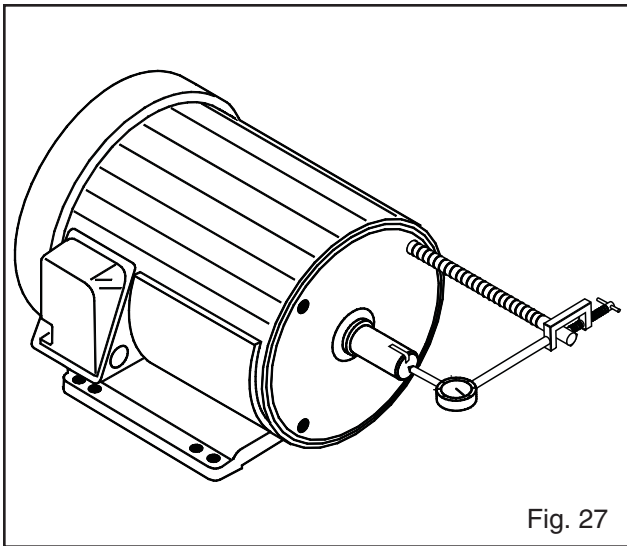

Fig. 27
2. Check shaft endplay on the motor (Fig. 27). Move shaft forward and backward by hand, noting indicator movement. If movement is greater than values indicated in Table 6, check the motor for cause of looseness (possible failed motor bearings).